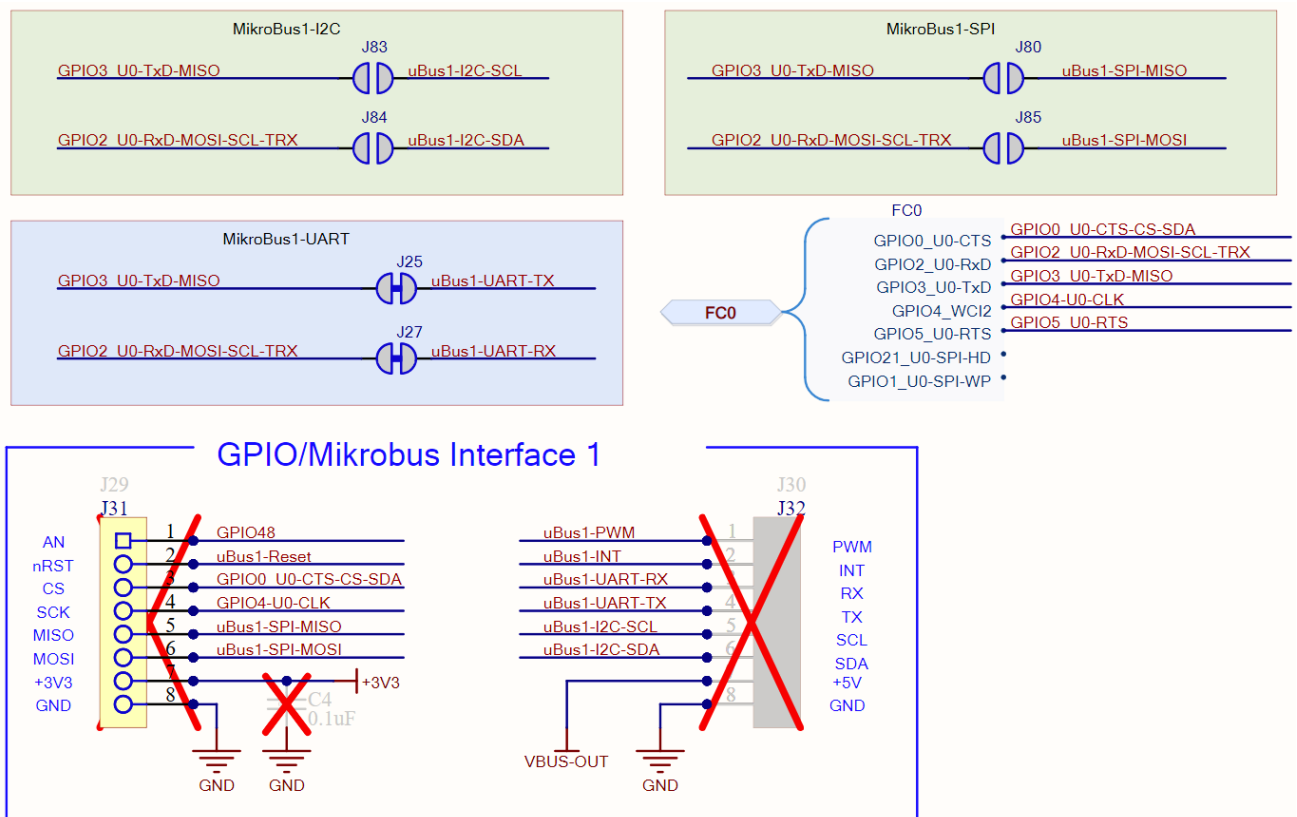

Figure 23: mikroBUS 1 slot signals and Jumper configuration
- To enable I2C or SPI, adjust the state of jumpers **J83** and **J84** for SPI, or **J80** and **J85** for I2C, as shown in Figure 23. Also, toggle jumpers **J25** and **J27** to disable UART.
Figure 23 shows the connection of mikroBUS 1 to the Flexcomm 0 interface.